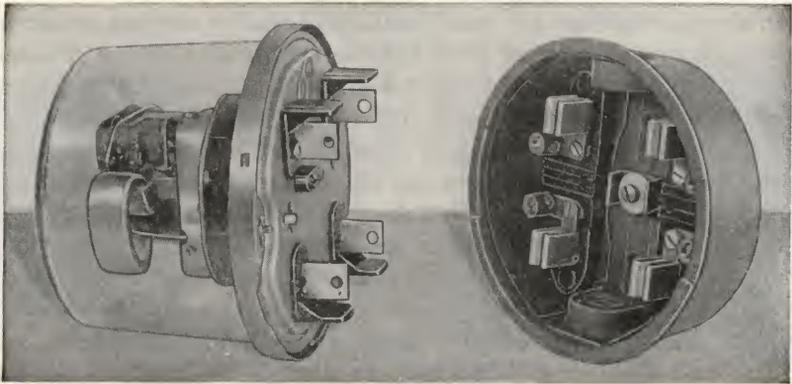

Fig. 7-4. A typical outdoor weatherproof kilowatt-hour meter and its socket.
**Location of Meter:** The outdoor type of meter is used in nearly every case today. The meter itself is weatherproof and in turn is plugged into a weatherproof socket, both of which are shown in Fig. 7-4. The socket is